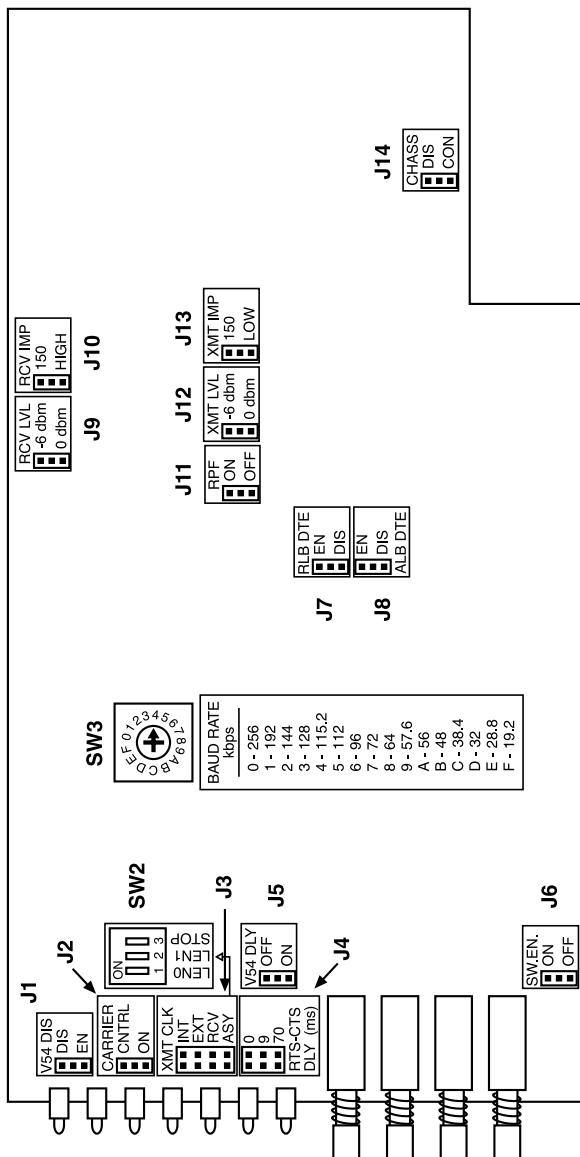

Figure 3-1. Layout of the 256-kbps Line Driver circuit board.
V.54 loops are activated manually with the front-panel buttons, or through the DTE interface. The buttons and the DTE interface can be enabled or disabled separately by jumpers J7 and J8 (shown in Figure 3-1 and described in Table 3-1).
Before attaching anything to the 256-kbps Line Driver standalone or rackmount card version, determine which data rate you're going to use, what the system's clock source should be, and how you want to set all of the other user-configurable options on the line driver. (Refer to Table 3-1 on the next two pages for a list of all of these options; the SW $n$  and J $n$  numbers in the table's "Element" column correspond to the locations with the same numbers in Figure 3-1.)
3. Identify the control(s) (refer to Figure 3-1).